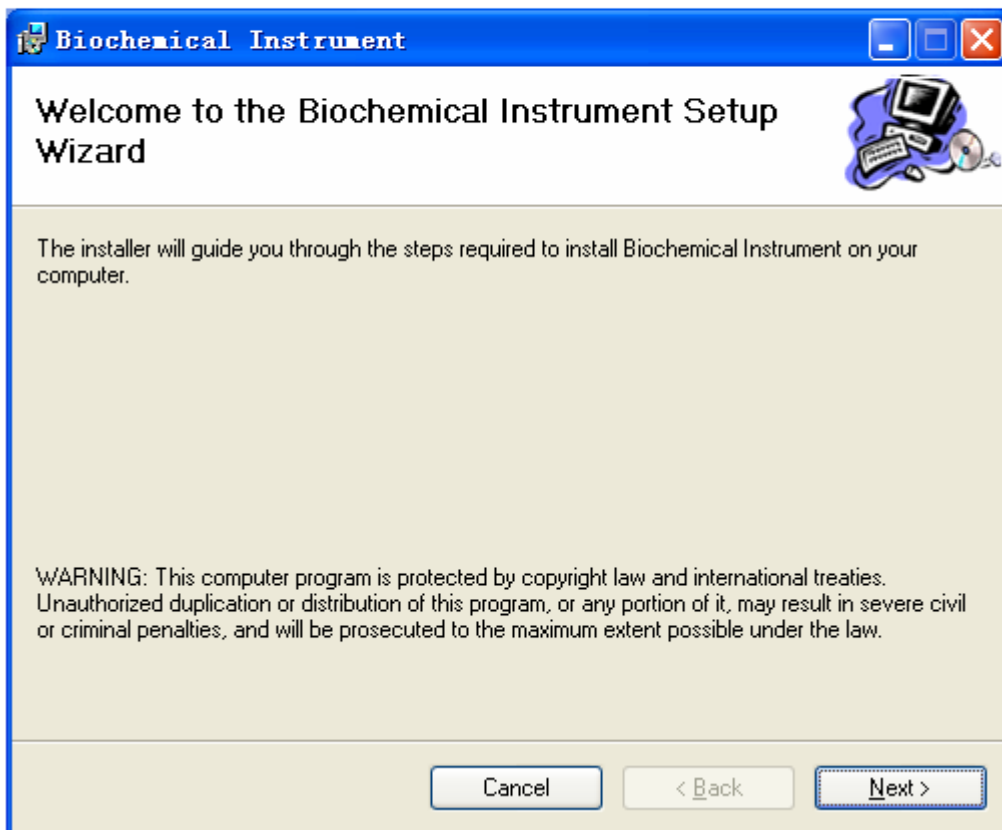

Figure 4-1
3. Installation Setup software, as shown in Figure 4-1